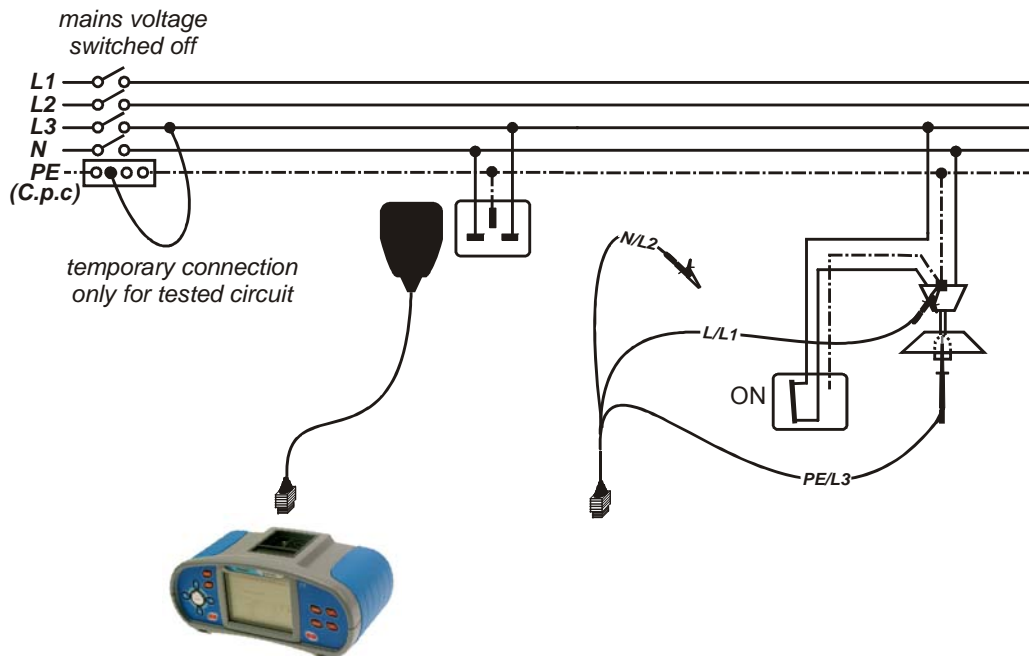

Figure 5.16: Measurement resistance of L – PE loop (R1+R2) using plug and universal test cable
- ❑ **Connect** test cable to the tested wiring (see figure 5.16).